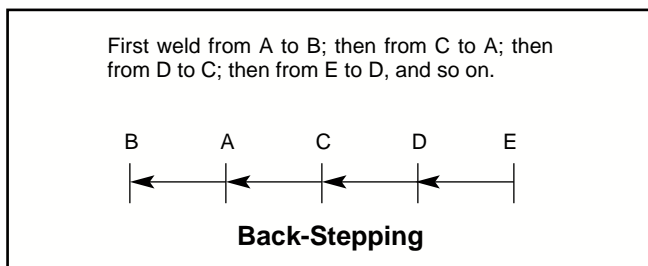

FIGURE B.21
- When welding sheet metal 16 gauge (1.5 mm) and lighter, heat buildup may cause part warpage and burn through. One way to eliminate these problems is to use the back-stepping method illustrated in Figure B.21.